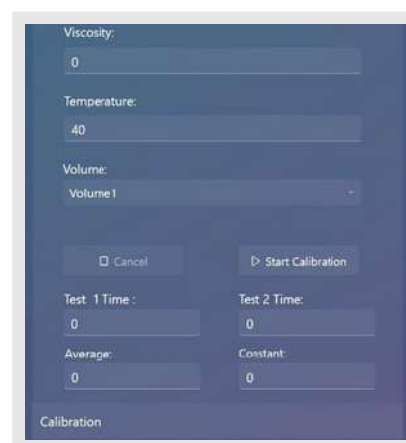

Figure 15: Calibration Menu
2. Four menu options will appear, as shown in Figure 15.